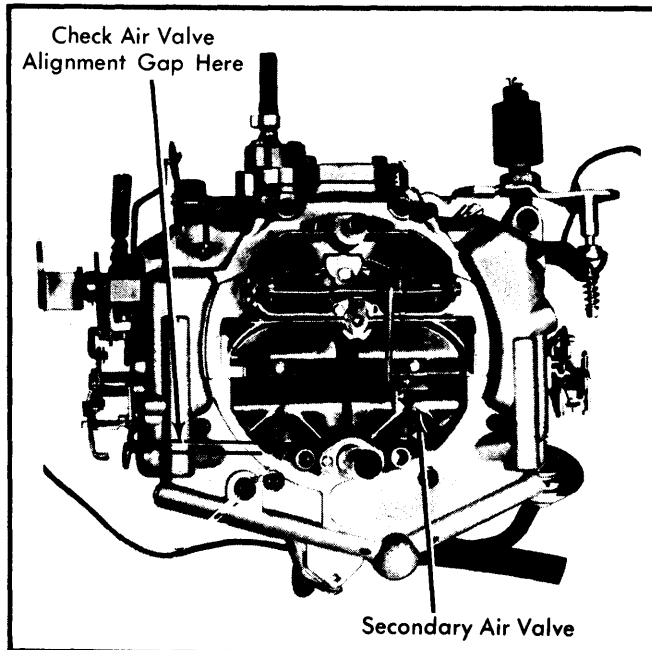

Fig. 3 Checking Secondary Air Valve Alignment
1) Observe carburetor from directly above. See Fig. 3.